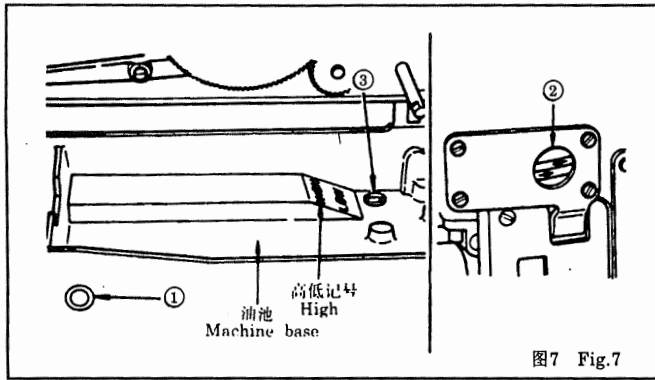
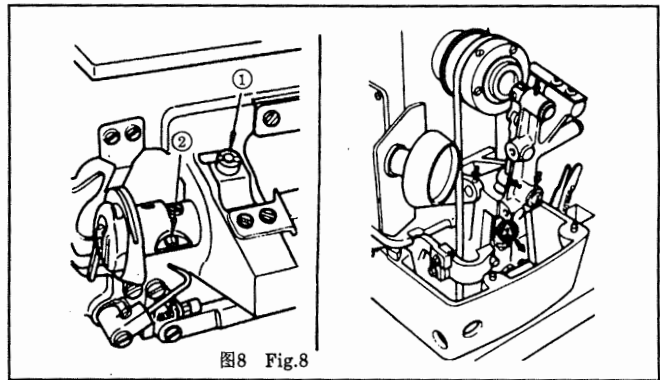

图7 Fig.7
图8 Fig.8
* 机器启动以前 图7
- 2) 当油面降至油标①的下刻线以下时应添加油。
- 3) 在机器处于正常的润滑状态时, 可以通过油窗②内的两根油管, 观察到油的流动。(低速运转时, 油的流动情况可以看得非常清楚)
- * 油如被弄脏或有沉淀物后, 应松开螺钉③, 放掉废油, 换上新油。
* 旋梭的油量调节 图8
- 2) 使用新机器或者长期搁置未用的缝纫机时, 在箭头 ④ 所示部位加2—3滴润滑油。
* **Before starting the machine:** Fig.7
- 2) Supplement the oil when the oil level has lowered below the bottom line of oil gauge ①.
- 3) When the machine has been properly lubricated, the oil is seen to run through the pipe from oil sight window ②. (Low speed operation permits easier observation of the lubricating oil.)
* **Adjusting the lubrication for the sewing hook** Fig.8